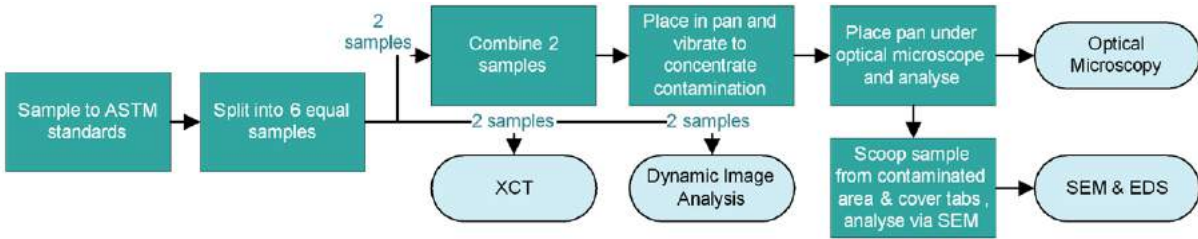

Fig. 2 Proposed workflow for large sample cleanliness assessment [1]
in Fig. 2, using optical microscopy (OM), scanning electron microscopy with energy dispersive X-ray spectroscopy (SEM/EDS), dynamic image analysis (DIA) and X-ray Computed Tomography (XCT). Table 2 defines basic operating parameters for each of these analyses. This assessment should be performed alongside other powder characterisation analysis, such as size, shape, flow and chemistry analysis, using ICP-OES and IGF for instance, for overall chemical specification and performance validation.